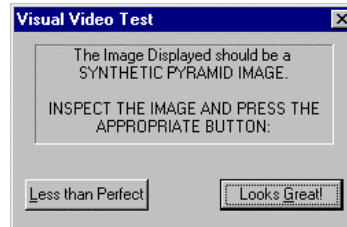

Figure 8-17 Visual Video Test #2 Window
- a. The program will display a dialog box asking about the presence and quality of a displayed image; see Figure 8-17.